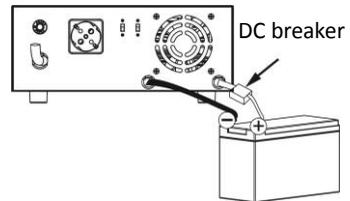

Fig. 1
1) Single battery connection (Refer to Fig. 1): When using a single battery, its voltage must be equal to the Nominal DC Voltage of the unit.